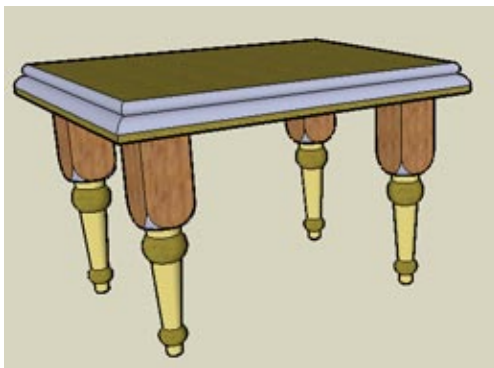

Figure 4-42
14. For the table top, draw a rectangle on top of the set of four legs. Offset the rectangle outward and pull it up. To make the table top more interesting, you can also extrude a Follow Me face around the table top (Figure 4-42).